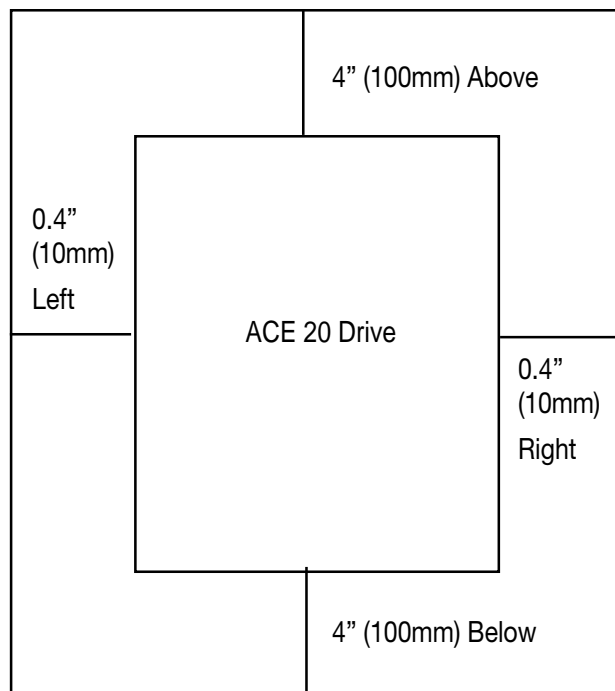

Figure 2-2-1
- (1) Securely mount the drive in the upright position on a rigid structure so that the drive keypad faces front. Avoid mounting the drive upside down or horizontally.
- (2) Allow clearances for cooling as shown in Fig. 2-2-1. This allows the drive, which generates heat during operation, to cool. The generated heat is radiated upward. Do not install the drive below a heat sensitive device.
- (3) The temperature of the heat sink rises to about 90 degrees C during operation of the drive. Mount the drive on a base made of a material able to withstand the temperature rise.